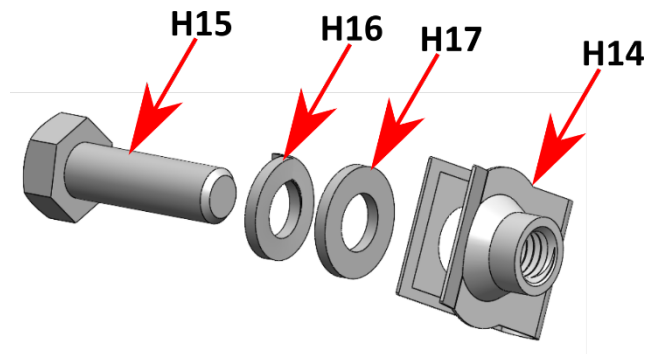

Figure 22- Front Horn Bracket "Optional" Hardware Stacking
- a. **ALTERNATE: Slide H14 onto the frame rail lower mounting point (REF. above Fig. 22 BLUE Section).**